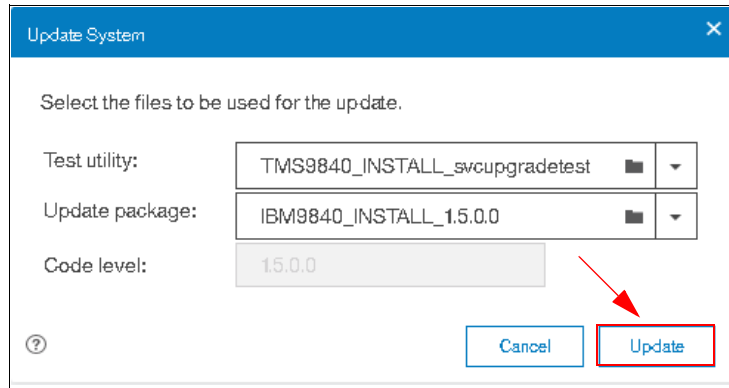

Figure 7-89 Test utility and firmware selection
Selecting the appropriate files for test utility, update package, and target code level is shown in Figure 7-89.
**Note:** The drop-down arrow that is shown in Figure 7-89 on page 289 shows your test utility and update package files that are on the current config node. This function is useful to avoid uploading the same test utility and update package when errors are identified by the software upgrade test utility.